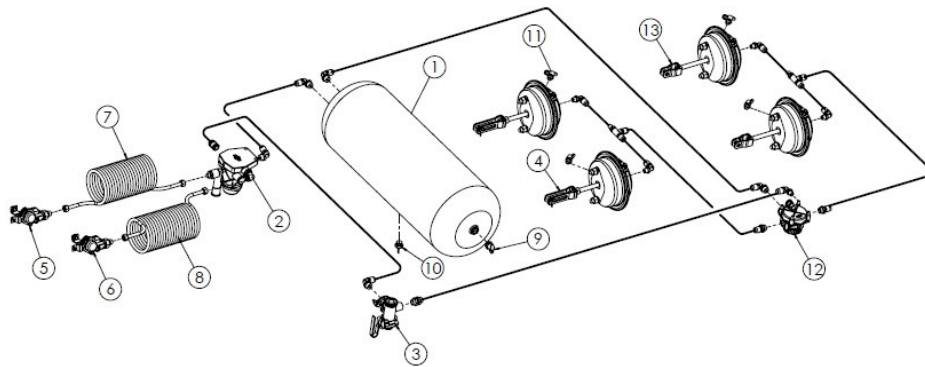

Figure 8 The 2-Line pneumatic braking system
- two-line pneumatic system (Figure 8)